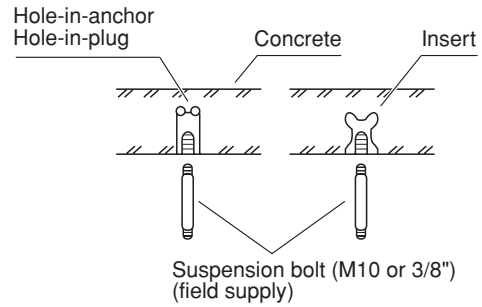

Fig. 3-1
- (1) Fix the suspension bolts securely to the ceiling using the method shown in the diagrams (Figs. 3-1 and 3-2), by attaching them to the ceiling support structure, or by any other method that ensures that the unit will be securely and safely suspended.